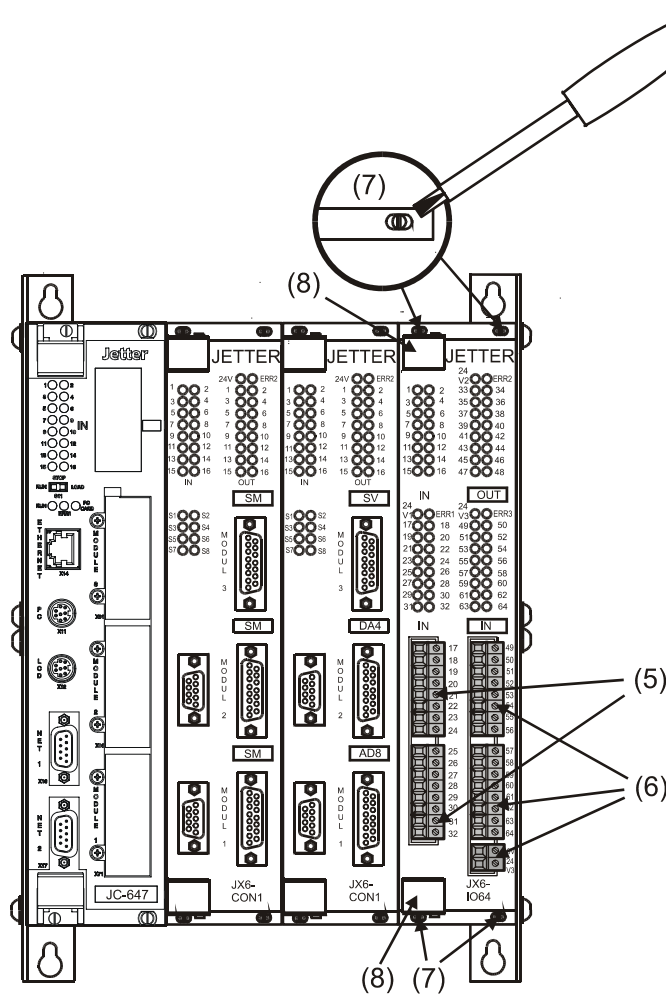

Fig. 30: Front View of the JX6 Rack equipped with Modules
- Remove the two 8-pin terminals (5) of the digital inputs 17 to 32, which are on the JX6-IO64 module, (see Fig. 30).
Remove the 2-pin terminal (6) of the external voltage supply of the outputs and the two 8-pin terminals (6) of the digital outputs 49 to 64 or the two 8-pin terminals (6) of the digital inputs 49 to 64 (see Fig. 30).
- Use a screwdriver to loosen the four screws (6) connecting the JX6-IO64 module with the JX6 rack (refer to Fig. 30).
- Pull the JX6-IO64 module out of the JX6 rack using the handles (8) (refer to Fig. 30).